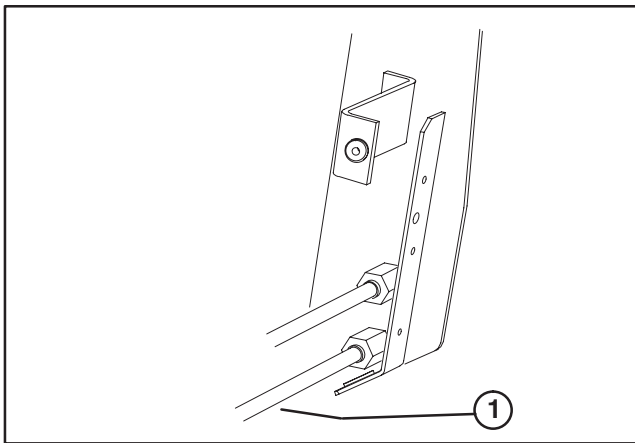

Figure 10
13. Disconnect, remove and replace hydraulic tube with new tube as shown in figure 10.